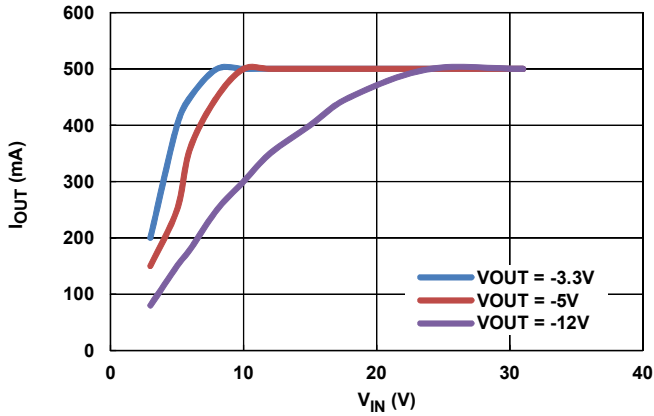

FIGURE 7. MAXIMUM I_{OUT} VS V_{IN} , $-V_{OUT}$
- Continuous output current up to 500mA (See Figure 7)
The curves in Figure 7 indicate the maximum output current the converter can deliver as a function of the input voltage and the selected output voltage configuration.